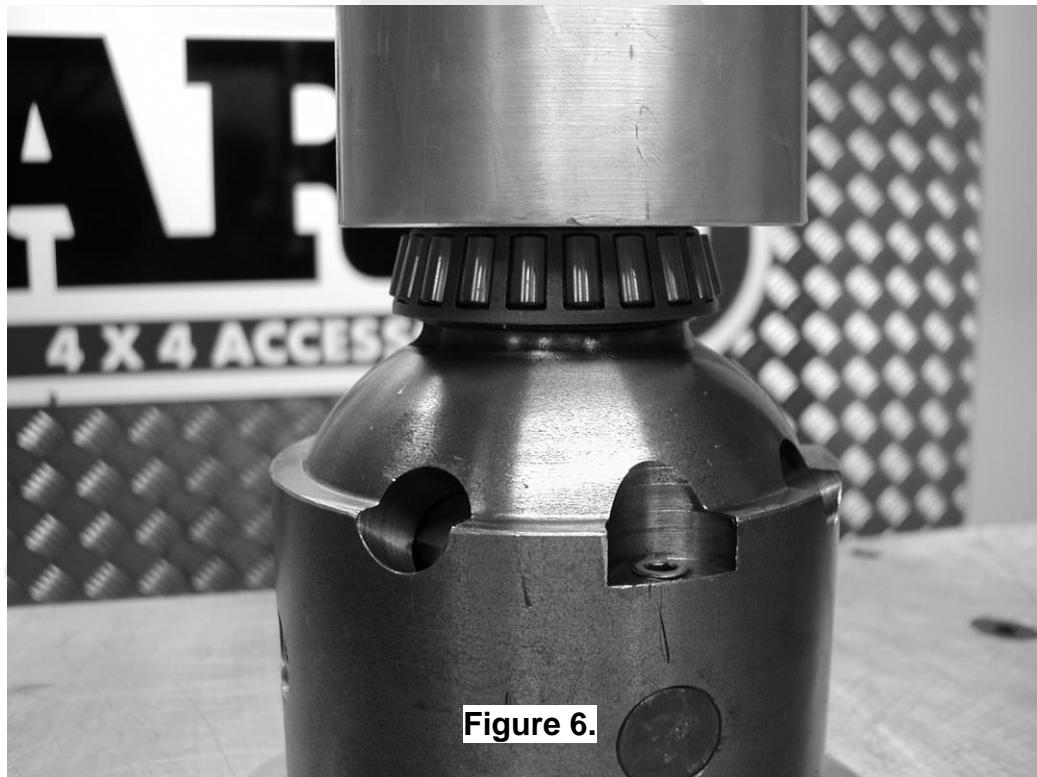

Figure 6.
- Using a bearing press or arbor press, press one of the bearing cones onto one bearing journal of the *Air Locker* (refer to Figure 6.) until the bearing seats firmly against the bearing journal shoulder.